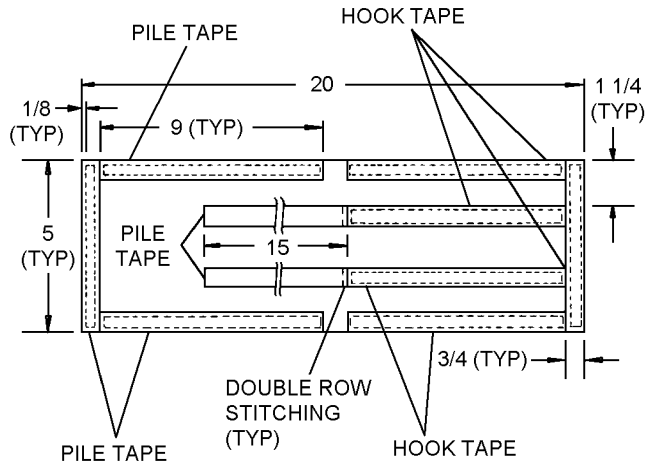

Figure 11-10. Painter Line Pouch
- 1. Cut and stitch hook and pile tape along edge of material. See figure 11-10.
- 2. Stitch two 9-inch lengths of hook tape 1 1/4 inch from sides. See figure 11-10.
3. Position face up a 15-inch length of pile tape at inner end of each inside strip of hook tape. Secure inner end of each pile tape to material with double row of stitching. See figure 11-10.